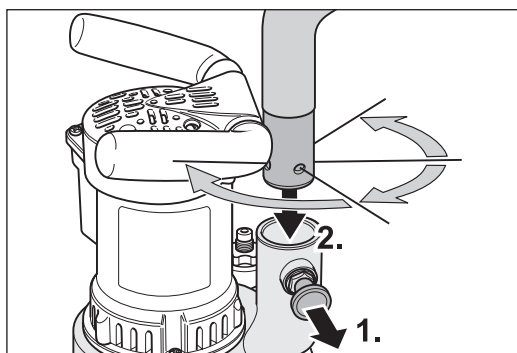

Fig. 2 Pull the stop bolt (1.) and insert the pipe socket into the fan housing (2.).
- 2 Pull out the stop bolt on the suction socket of the fan housing (Fig. 2, 1.) and at the same time insert the pipe socket into the fan housing (Fig. 2, 2.).